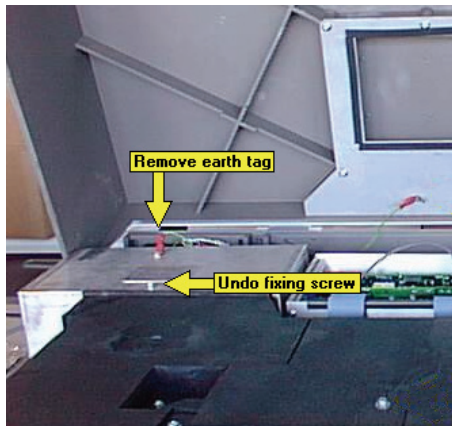

Figure 122 Earth connection and cover screw
2. Locate the metal lamp housing (located rear-left), and remove the earth contact, as shown in Figure 122.
3. Undo the cover fixing screw, as shown in Figure 122.